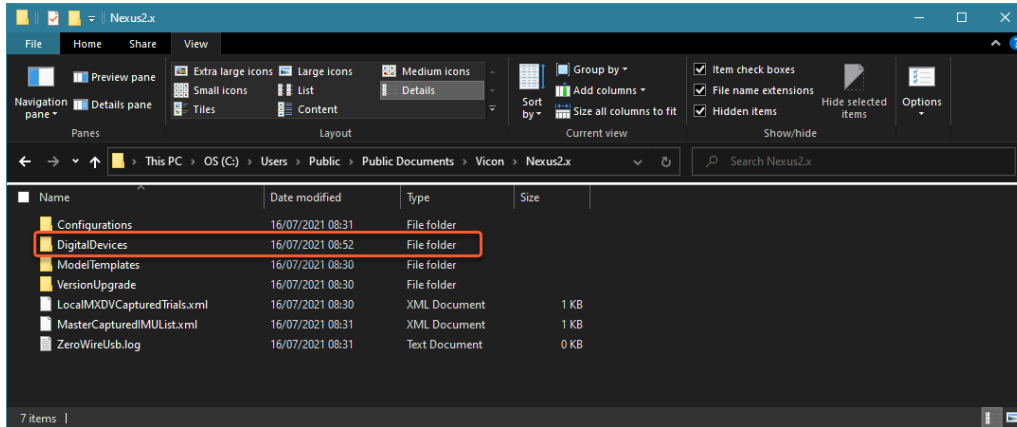

Figure 2: Screenshot of the *DigitalDevices* folder.
4. Browse to *C:\Users\Public\Documents\Vicon\Nexus2.x* (Figure 2). If this is a new Vicon Nexus 2 installation, the folder path will not exist. In this case, you will first need to launch Nexus for the location to be created and then close Nexus.
- a) Navigate to the *DigitalDevices* subfolder within the *Nexus2.x* location. If this folder does not exist, create it as shown in Figure 2 below.